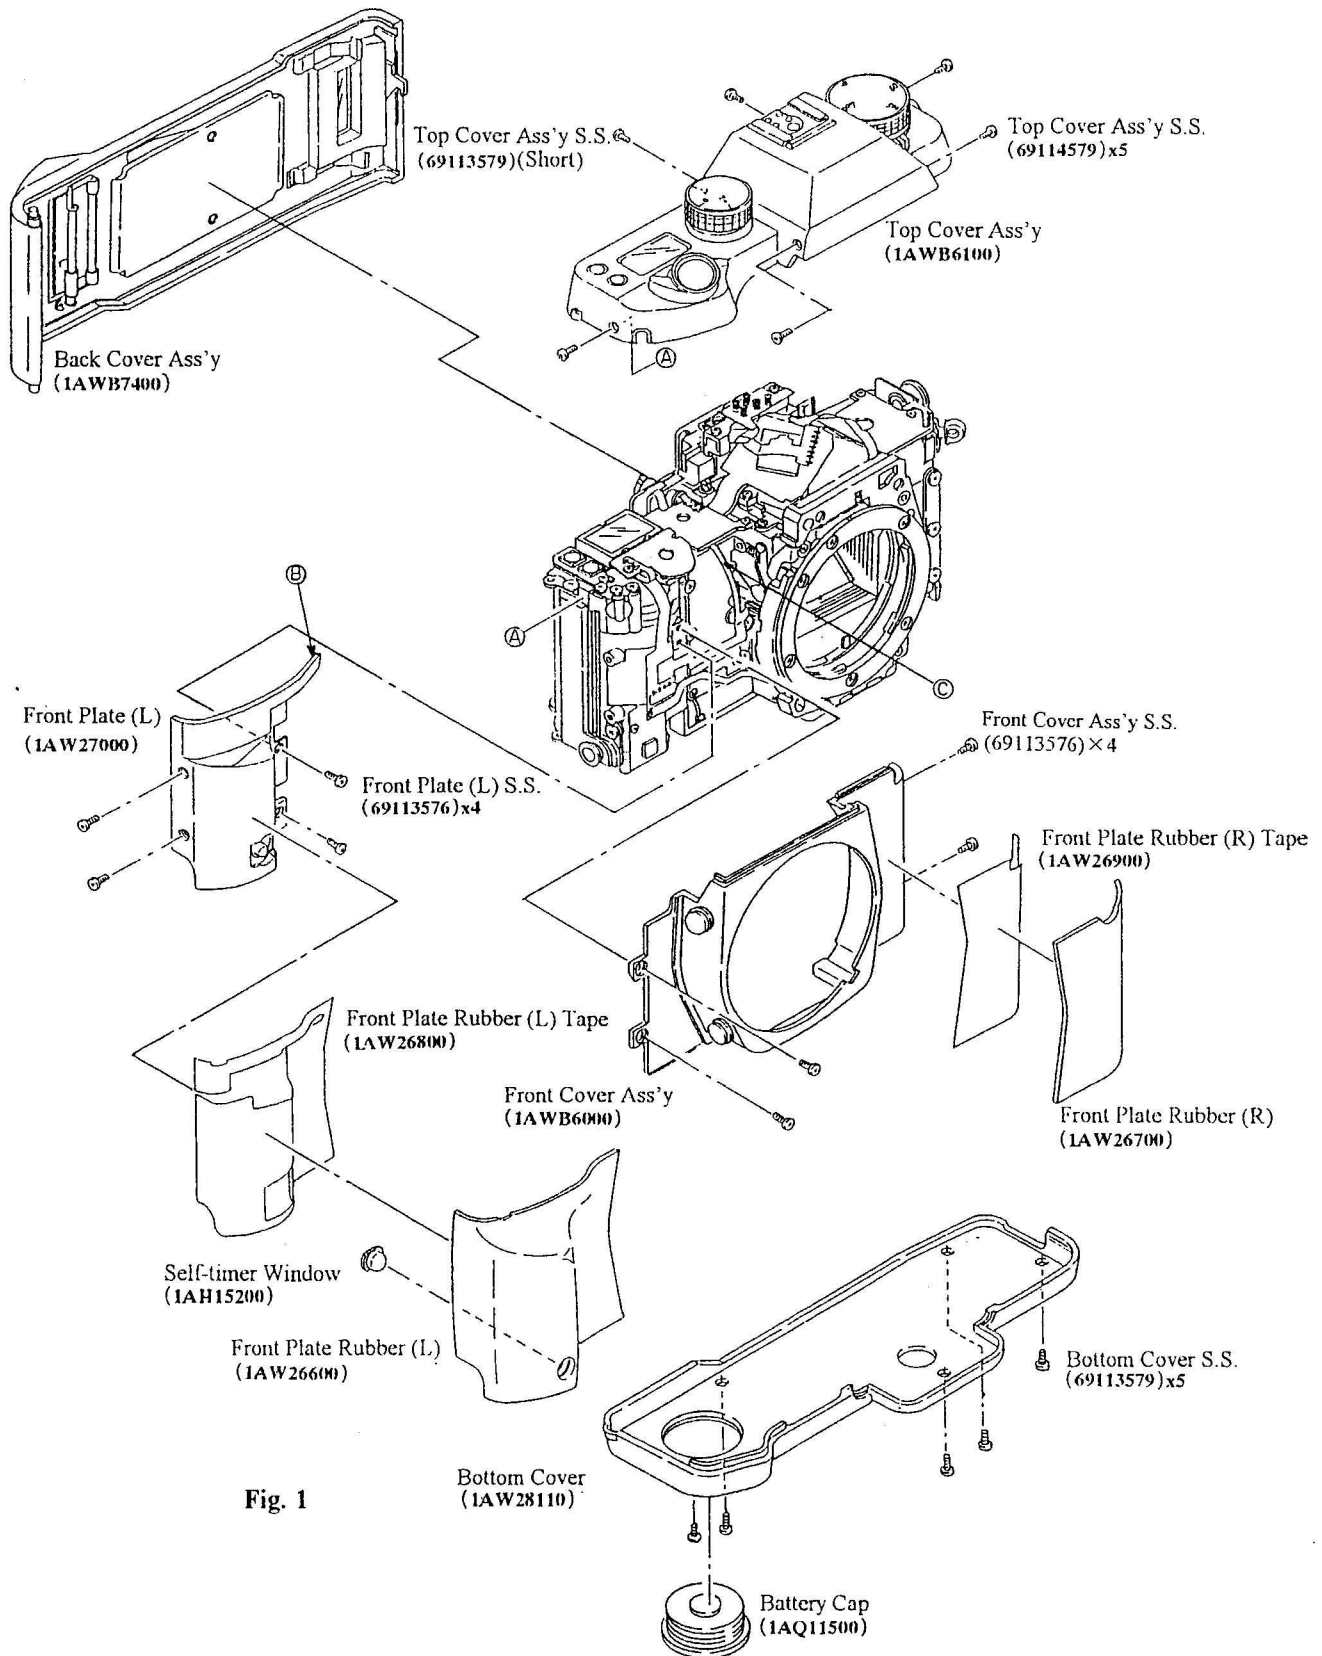

Fig. 1
(See Fig. 1)
- b) Install the Front Plate (L) Ass'y so that the ⊗ portion of the Front Plate (L) Ass'y presses the ⊙ portion of the Aperture Control FPC. (See Fig. 1).